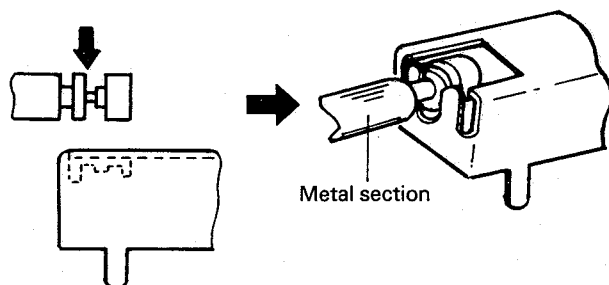

Fig. 2
- When connecting a remote switch, insert it from above as shown in Fig. 2. In this case, press it in sufficiently in order to prevent it from floating during operation.